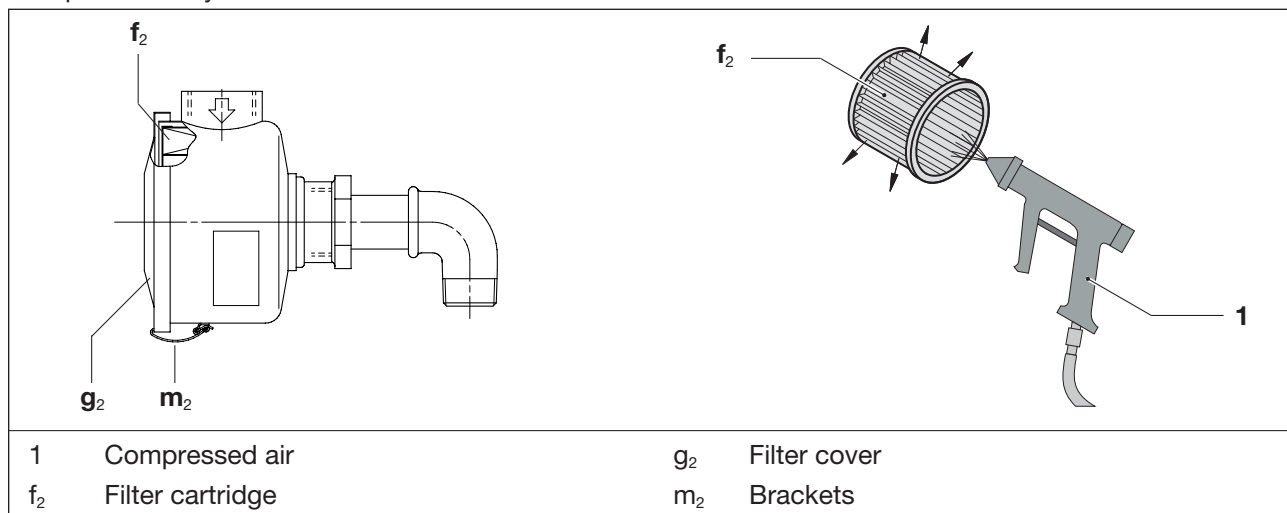

Fig. 8 Intake filter
- Release the brackets (Fig. 8/ $m_2$ ) on the filter cover (Fig. 8/ $g_2$ ).
- Remove the filter cartridge (Fig. 8/ $f_2$ ) from the filter and clean or replace.
- Re-insert the filter cartridge in the filter and fasten the filter cover (Fig. 8/ $g_2$ ) with the brackets (Fig. 8/ $m_2$ ).